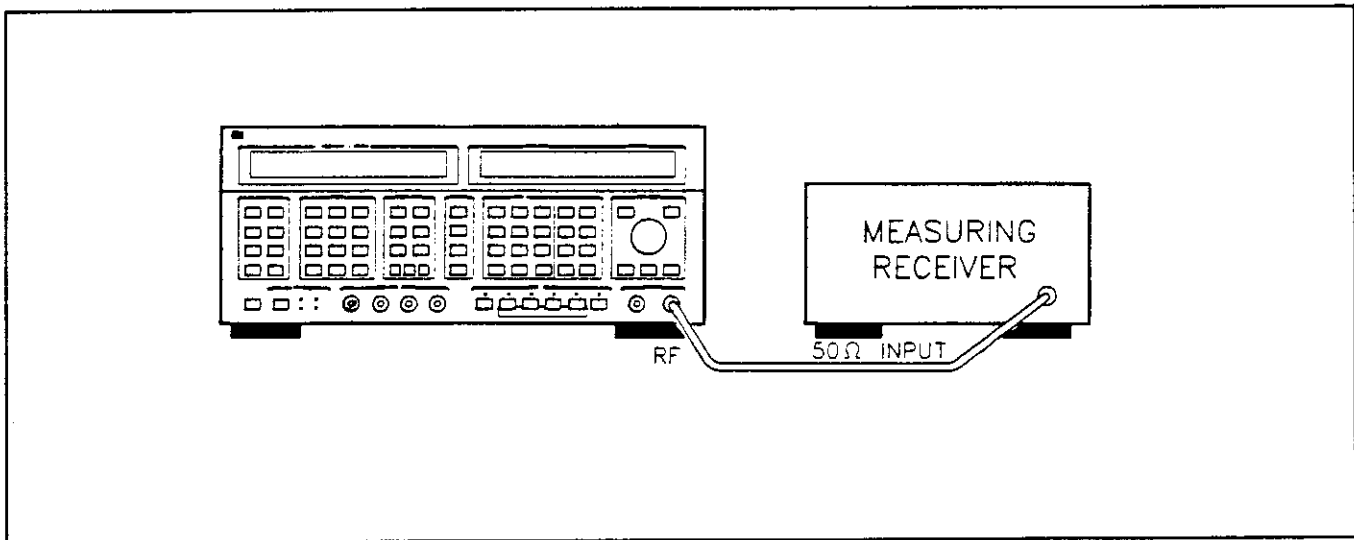

Figure 8-1. AM Test Setup
1. Connect the equipment as shown in figure 8-1.